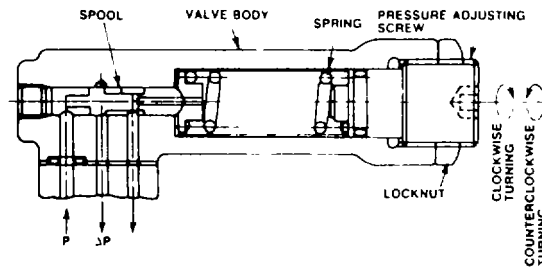

Figure 4-13. Hydraulic Pump Control.
- a. If the control (42, Figure 4-12) is not performing properly because of sticking or contamination, it can be further disassembled for cleaning or repair. (Refer to Figure 4-13).